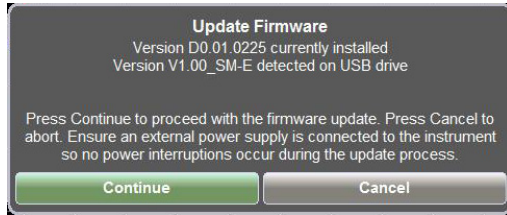

Figure 11-8. Update Firmware Message
6. Press the **Preset (1)** key.
7. Under the Reset submenu press Update Firmware. The Update Firmware dialog (Figure 11-8 on page 11-11) appears.